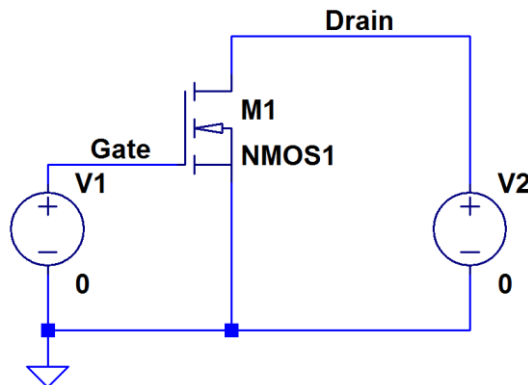

Fig. 1. NMOS transistor CS characteristics test circuit.
Measured MOSFET common-source (CS) characteristics are obtained from a circuit like the one in Fig. 1. Simulating the circuit will show the CS characteristics for a MOSFET model. To plot each curve, the gate-to-source voltage V_{GS} is set to a given value and the drain-to-source voltage V_{DS} is swept across the desired range.
- a. Create an LTspice schematic of the circuit in Fig. 1.